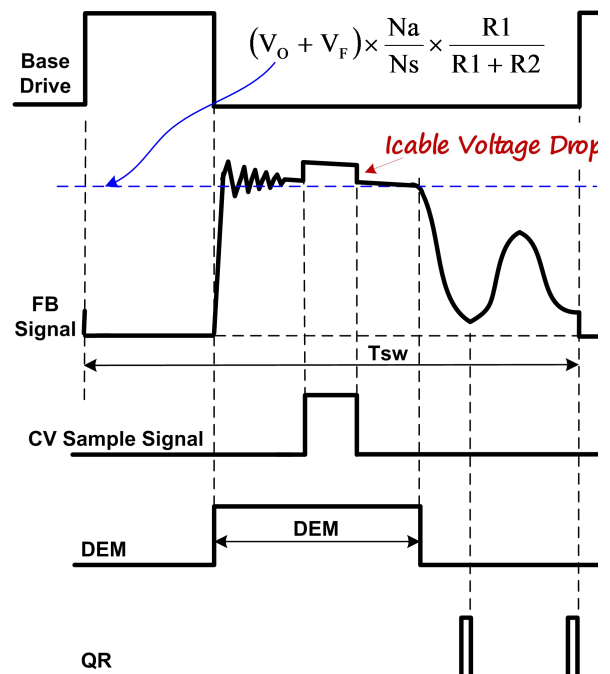

Fig.2
In Primary Side Regulation (PSR) control, the output voltage is sensed on the auxiliary winding during the transfer of transformer energy to the secondary. Fig.2 illustrates the timing waveform of CV sampling signal, demagnetization signal (DEM) and quasi-resonant (QR) trigger signal in DP3773B. When the CV sampling process is over, the internal sample/hold (S&H) circuit captures the error signal and amplifies it through the internal Error Amplifier (EA). The output of EA is sent to the Quasi Resonant PSR CV Modulator (QR-CVM) for CV regulation. A valley is selected to trigger new PWM cycle by the output of the QR-CVM block, which is determined by the load. The internal reference voltage for EA is trimmed to 2V with high accuracy.
During the CV sampling process, an internal variable current source is flowing to FB pin for Cable Drop Compensation (CDC). Thus, there is a step at FB pin in the transformer demagnetization process, as shown in Fig.2. Fig.2 also illustrates the equation for “demagnetization plateau”, where V_o and V_F is the output voltage and diode forward voltage; R_1 and R_2 is the resistor divider connected from the auxiliary winding to FB Pin, N_s and N_a are